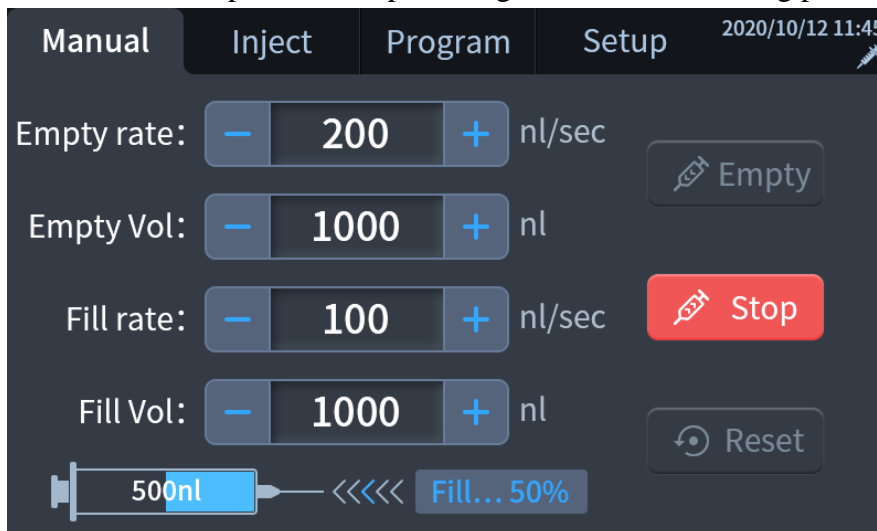

Figure 5-6
- 7) During the filling process, the filling progress will be displayed in real time on the [Manual] interface, as shown in Figure 5-6.